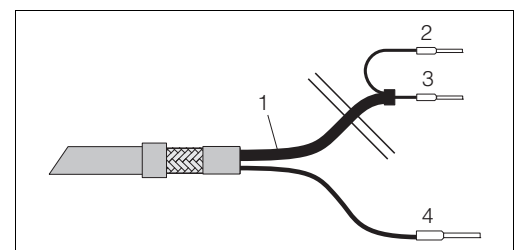

Fig. 15: Cable CPK1: device connection
1. Cut off end sleeves 2 and 3 of the coaxial cable (→ Fig. 15).